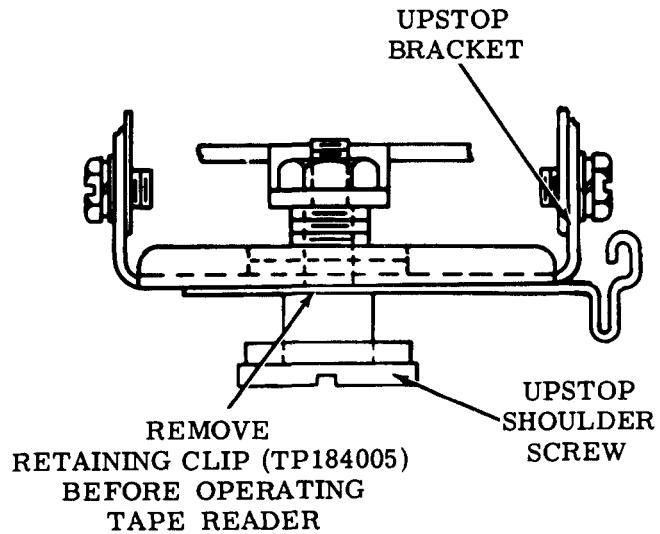

Figure 15 - Tape Reader Upstop Bracket Retaining Clip
Note: Before replacing an ASR cover, remove the retaining clip (early design units only) from the tape reader upstop screw (Figure 15). Also, prepare the punch on 3300 Series Coded Sets for manual or automatic operation as described in 6.01.
**4.01** A retaining ring or clip (Figure 15) is assembled (on early design units) to the upstop screw to prevent the sensing pins from being dislodged during shipment. This retaining clip must be removed before placing the tape reader in operation.